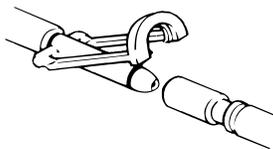

Figure 21: Clik-Tite open
- b. If you have **Clik-Tite** hoses, make sure that the connectors and clamps are open (Figure 21 on page 34).